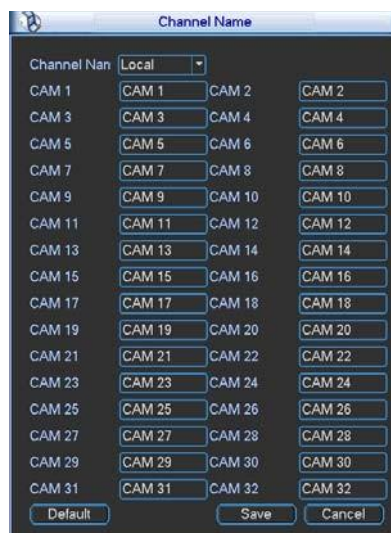

Figure 4-28
- PTZ activation: Here you can set PTZ movement when alarm occurs. Such as go to preset, tour & pattern when there is an alarm. Click "select" button, you can see an interface is shown as in Figure 4-28.